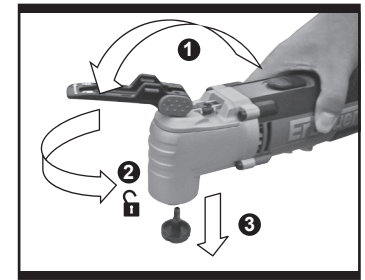

Fig. 1
- Flip the Tool Free Accessory Clamping Lever forward to the open position (See Fig.1).
- Rotate the Clamping Lever counterclockwise to loosen the Flange. (See Fig. 1)